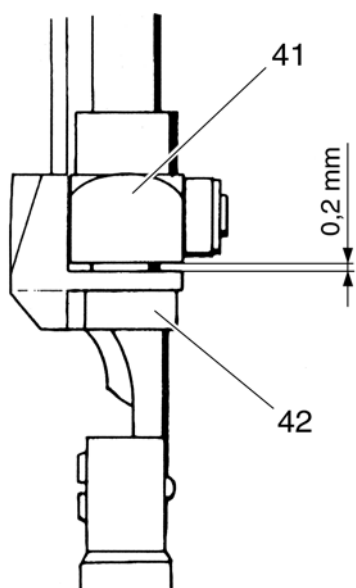

Fig. 24
- Set guide piece 42 at a clearance of 0.2 mm from cross head 41 (fig. 24).